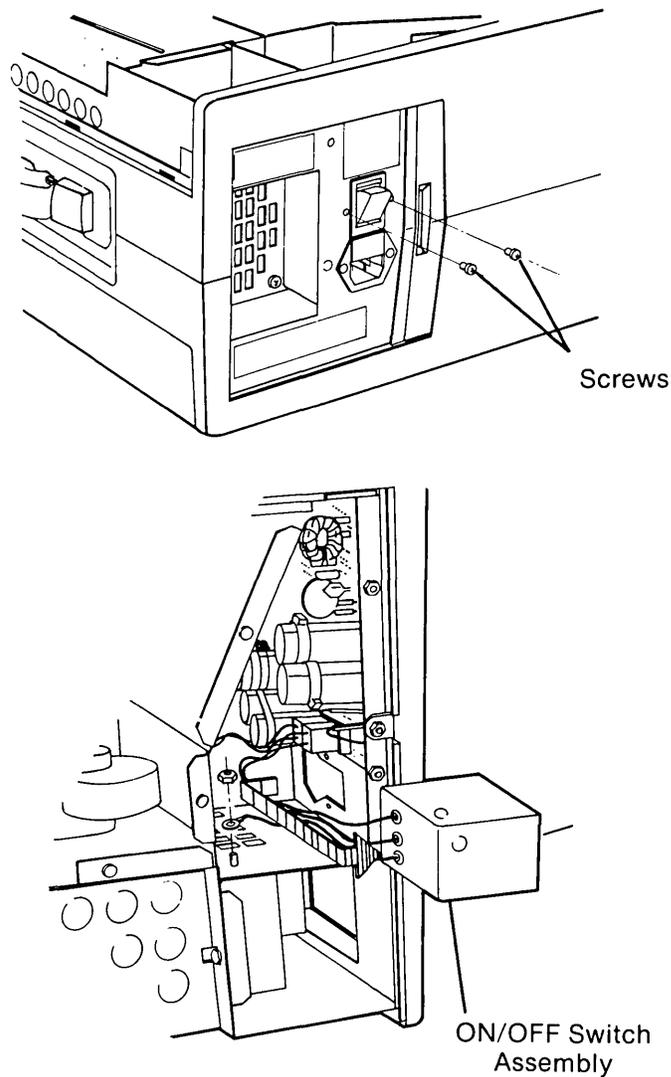

Figure 7-32. Removing the Screws Which Hold the ON/OFF Switch Assembly.
Open the power compartment access door. Remove the two (2) screws holding the ON/OFF switch assembly in place (Figure 7-32). Lift the switch assembly out and place it on the chassis.